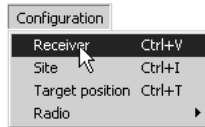

Figure 2-6. Configuration->Receiver
2. Once connected, click on **Configuration->Receiver** (Figure 2-6).